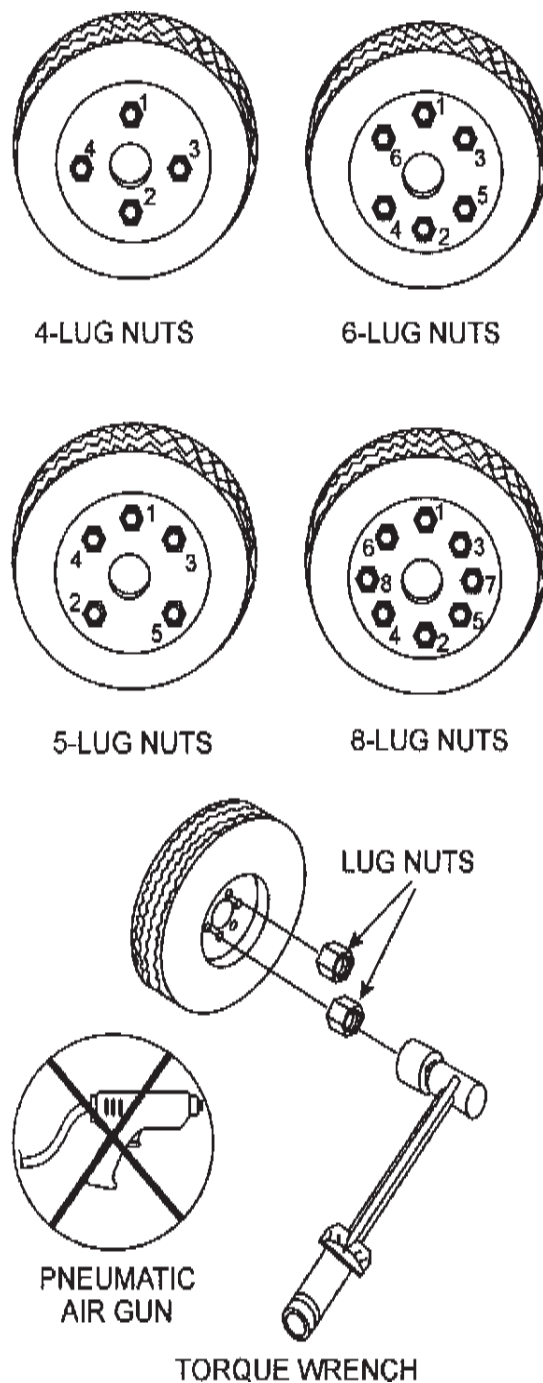

Figure 58. Wheel Lug Nuts Tightening Sequence
2. Torque all lug nuts in sequence. See Figure 58. **DO NOT** torque the wheel lug nuts all the way down. Tighten each lug nut in 3 separate passes as defined by Table 18.